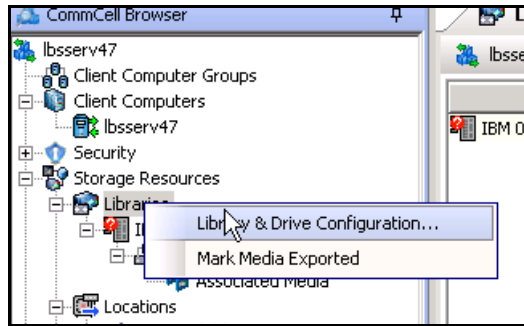

Figure 19-2 Library and drives configuration menu
2. Log on to the CommCell Console by using your administrator account and password, click the CommCell Control Panel icon, then click **Library and Drive Configuration** (Figure 19-2).